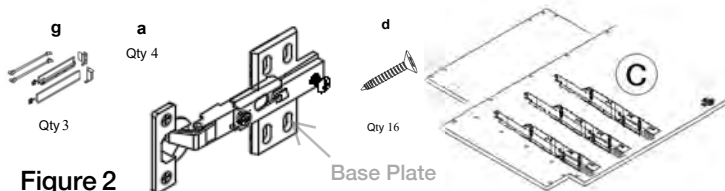

Figure 2
2. Install Hinge base plates (a) & drawer glides (g) onto side panel into designated holes using screws (d). (Figure 2)